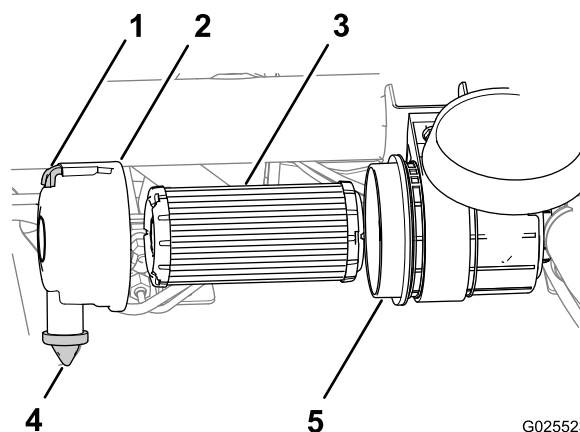

Figure 52
1. Pull the latch outward and rotate the air-filter cover counterclockwise (Figure 52).
3. Remove air filter from the housing (Figure 52).
4. Wipe clean the interior of the air-filter cover and housing (Figure 52).
5. Remove the rubber dust valve from the cover (Figure 52).
6. Clean the dirt ejection port located in the air-cleaner cover, the dust valve cavity, and then replace the dust valve (Figure 52).
8. Insert the new air filter by applying light pressure to the outer rim of the filter to seat it in the air-filter housing (Figure 52).
9. Align the air-filter cover with the dust valve at the 6 o'clock position when viewed from the left end of the cover (Figure 52).
10. Secure the latch of the air-filter cover (Figure 52).